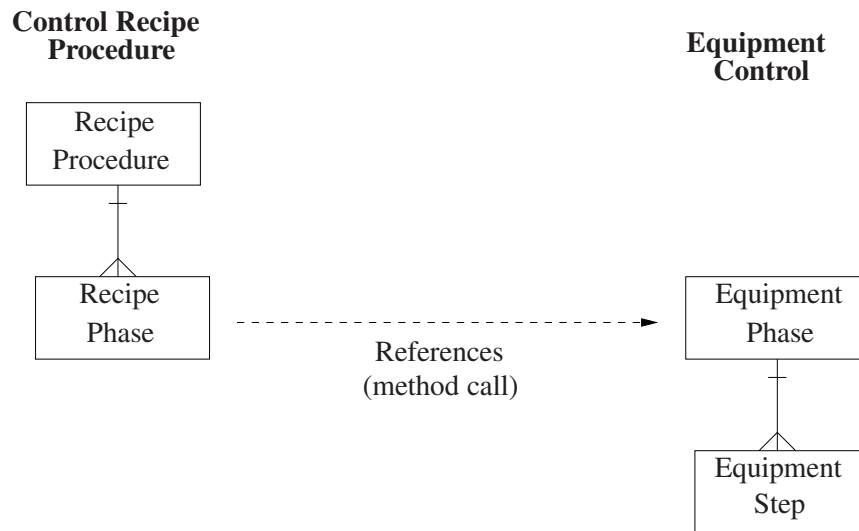

Figure 2
5. The dashed levels could either be contained in the control recipe or in the equipment control. The most common configuration used in industry is shown in Figure 2.